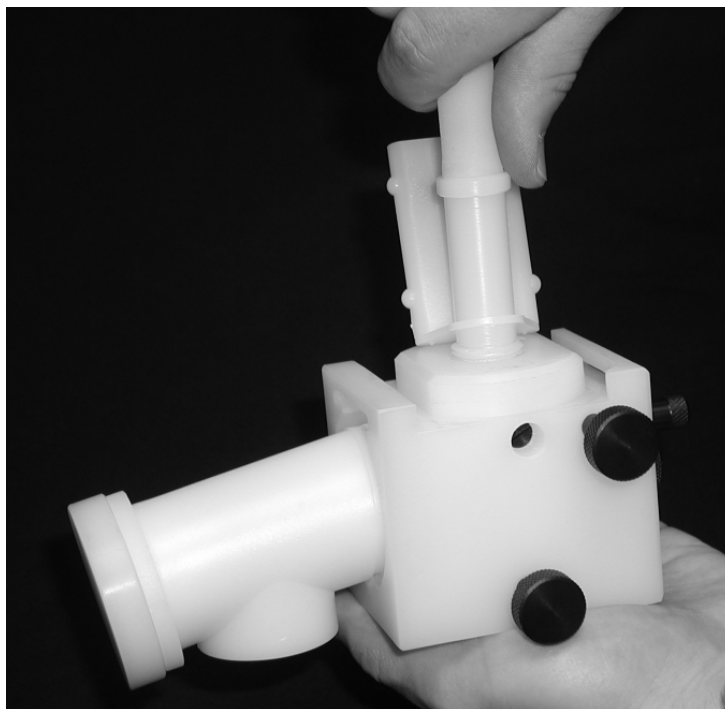

Figure 1. Screw the drain tube into the nebulizer block
- 1 Hold the nebulizer block/spraychamber assembly upside down so that the float falls down clear of the hand, and screw the new drain tube into the nebulizer block. Refer to Figure 1.